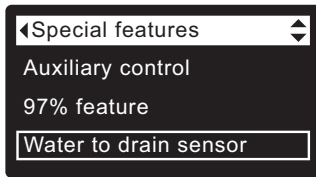

FIG. 145
1. From any of the rolling status screens, press the SELECT (O) button to display the **Main menu**.
3. Press the SELECT (O) button to display the Advanced settings menu.
5. Press the SELECT (O) button to display the Special features menu (See Figure 145).
8. If the desired option already has a dot next to it, go to Step 9. Otherwise, press the DOWN (▼) or UP (▲) buttons to scroll to the other option, then press SELECT (O) to choose it.
9. Press the SELECT (O) button. The display will go back to the Special features menu (Figure 145).